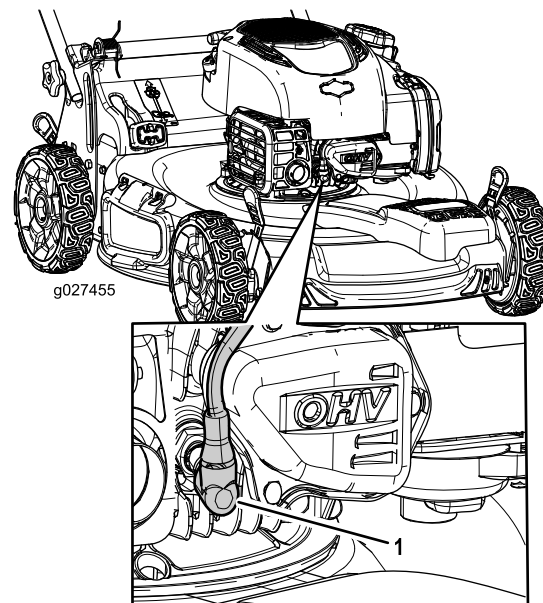

Figure 23
2. Disconnect the spark-plug wire from the spark plug (Figure 23).